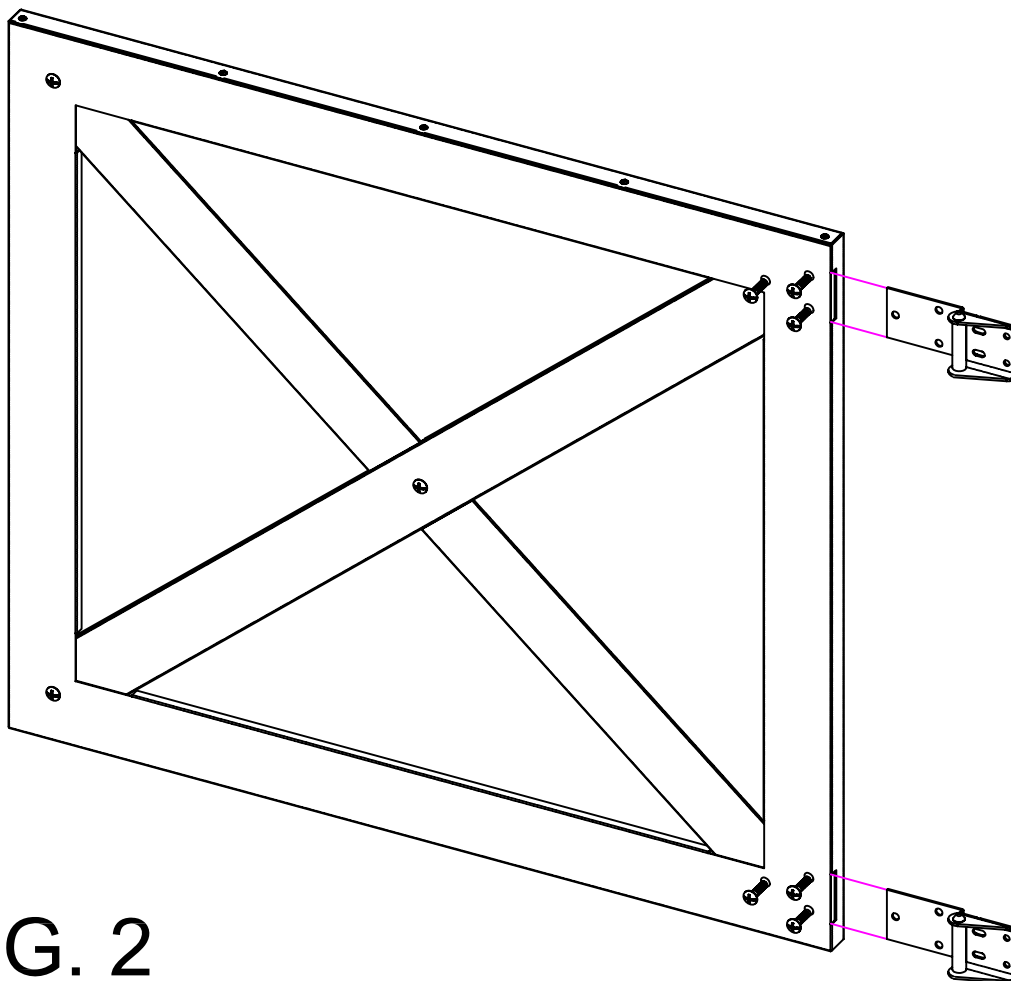

FIG. 2
1. REMOVE (2) 1/4" x 1 1/4" TRUSS HEAD WOOD SCREWS FROM FACE OF PANEL AT TOP & BOTTOM HINGE LOCATIONS - - THESE SCREWS WILL BE RE-USED ON THE BACK OF THE PANEL.
3. ATTACH THE HINGE ASSEMBLY THROUGH THE HOLES IN THE FRONT OF THE DOOR PANEL WITH THE THREE PHILLIPS HEAD MACHINE SCREWS AS SHOWN IN FIG. 2.
1. MOUNT HINGE ASSEMBLY TO THE DOOR PANEL FRAME PRIOR TO MOUNTING TO DOOR JAMB AS SHOWN IN FIG. 2